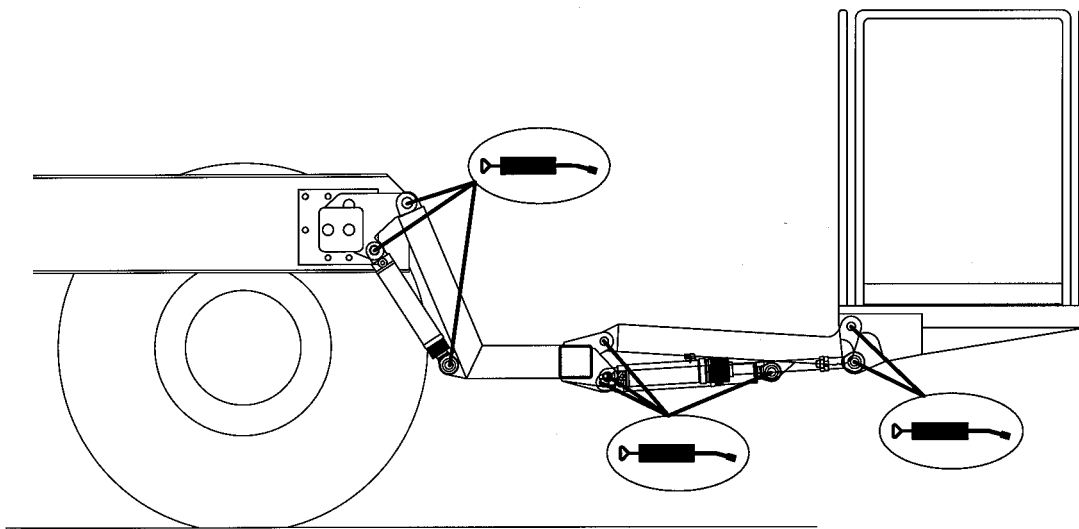

Figure 8.8 Tail-lift Lubrication
8.9.3.1 The locations of the lubrication points are indicated in Figure 8.8.